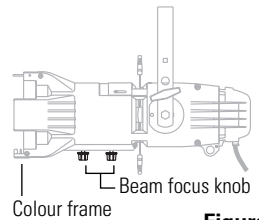

Figure 5
1. Loosen the beam focus knob(s) on the underside of the barrel. See **Figure 5**.